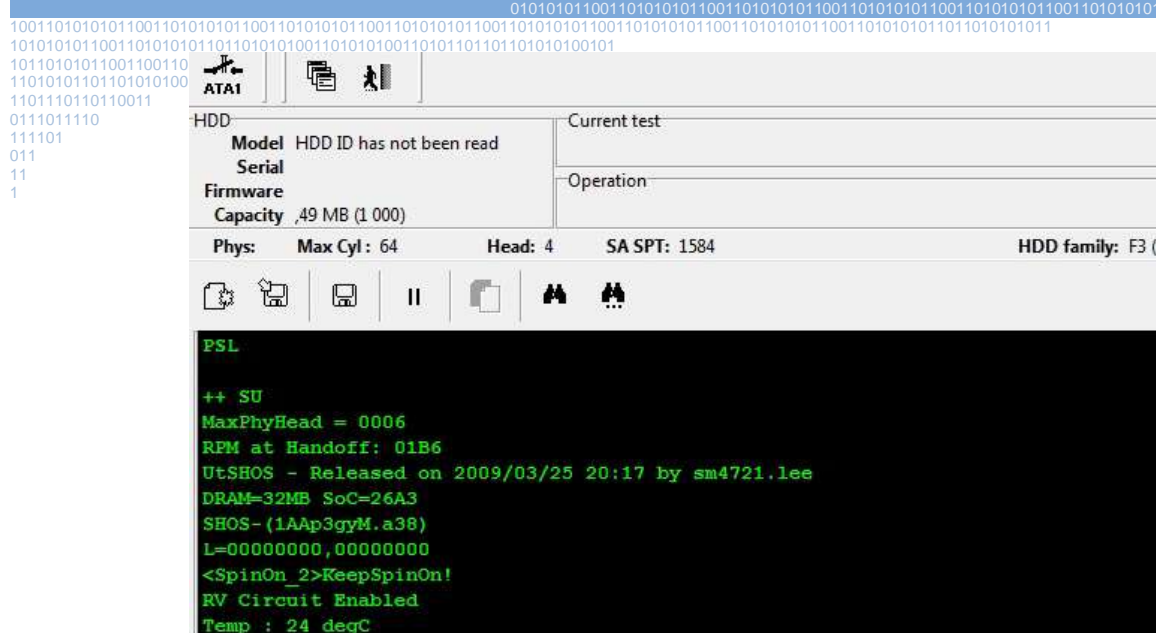

Fig.8.4.
- ◆ In the utility window, go to the Terminal tab and switch drive power on (*Fig. 8.4*).